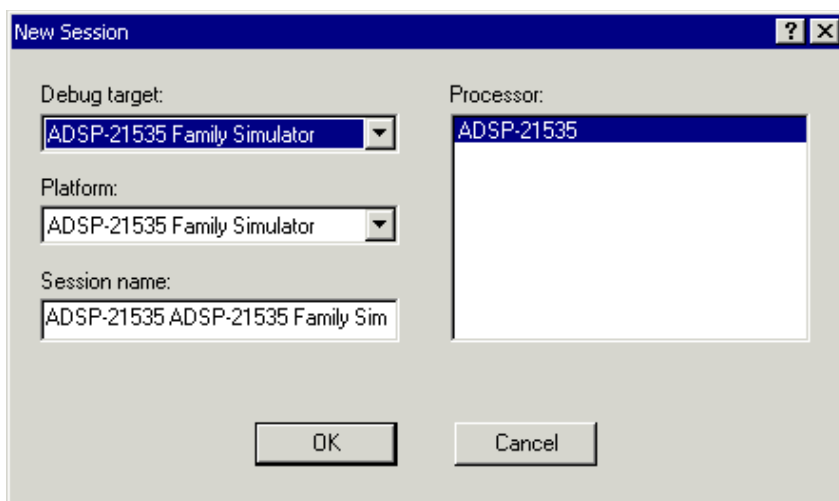

Figure 2-6. New Session Dialog Box
If you are running VisualDSP++ for the first time, the **New Session** dialog box (Figure 2-6 on page 2-11) opens to enable you to set up a session. Select the values shown in Table 2-1 on page 2-11. Then click **OK**. The VisualDSP++ main window appears.
1. In the **Session List** dialog box, click **New Session** to open the **New Session** dialog box, shown in Figure 2-6 on page 2-11.